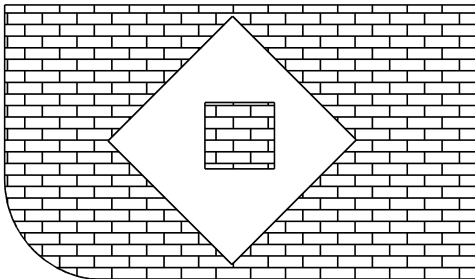

Figure 15.1: Hatching using the Normal hatching type.
- Normal – toggle this on to alternate hatching within defined boundaries (see Figure 15.1).